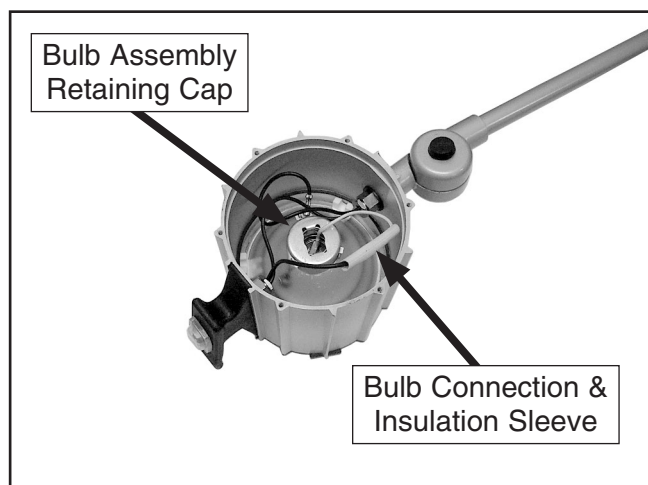

Figure 3. Bulb assembly connection and retaining cap.
4. Identify the bulb assembly connection and retaining cap inside the lamp housing, as shown in **Figure 3**.